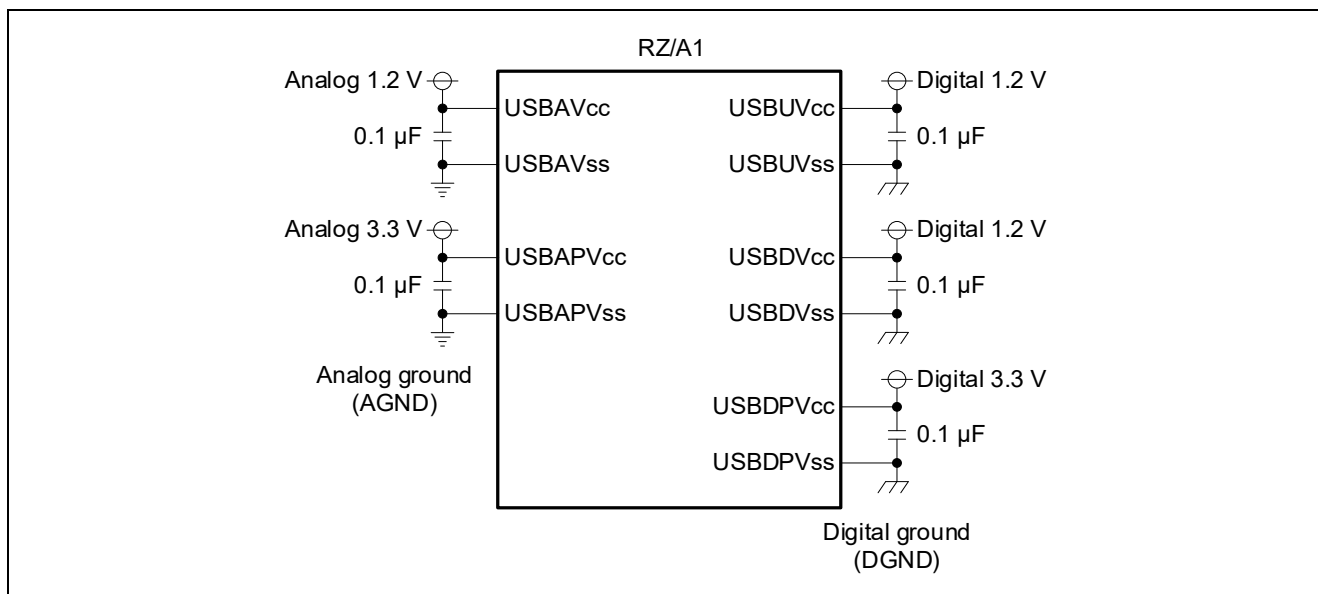
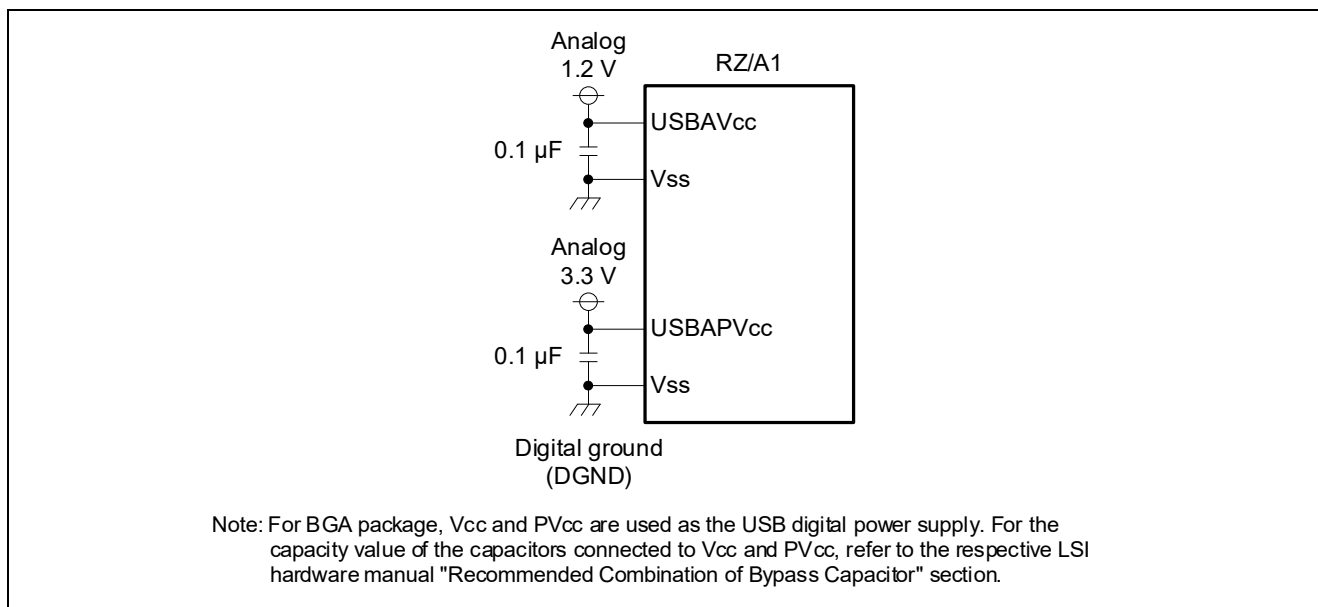

Figure 3.1 Bypass capacitor connection example 1 (QFP)
Figure 3.2 Bypass capacitor connection example 2 (BGA package)
- For the bypass capacitor capacity value, it is recommended that a capacitor of 0.1 μF be placed near the USB power supply pins. Figure 3.1 shows an example of bypass capacitor connection for QFP and Figure 3.2 shows an example of bypass capacitor connection for BGA package.